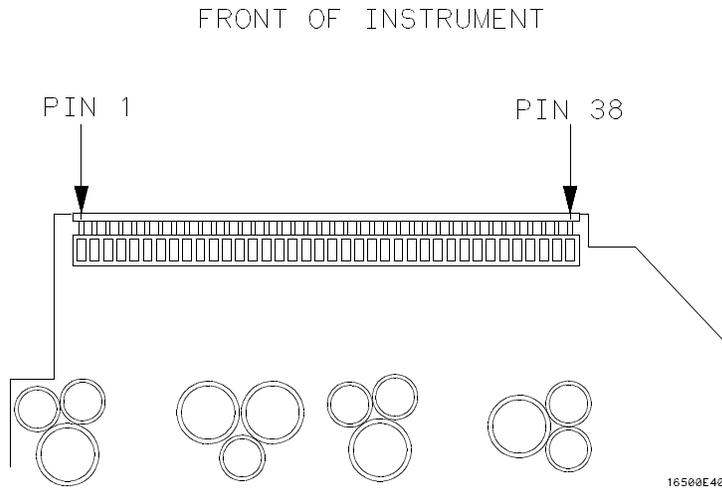

Figure 6-33. Power Supply Pins
2. Using a DVM, measure the power supply voltages. Use figure 6-33 for power supply pin assignments and use table 6-2 for voltages.